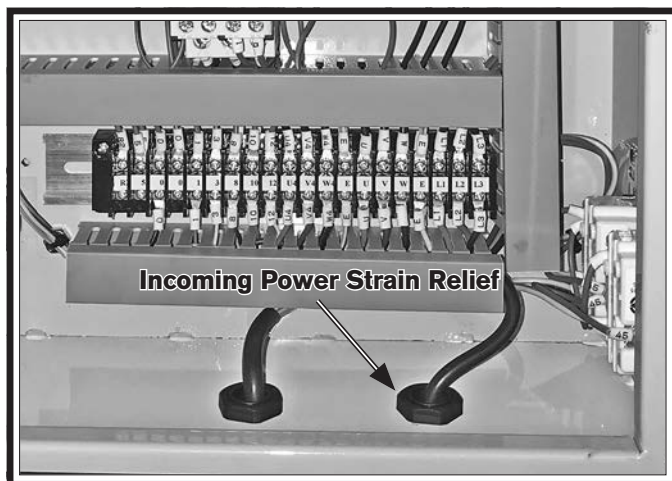

Figure 25. Location of incoming power strain relief.
2. Insert incoming power wires through strain relief (see **Figure 25**) at bottom of electrical cabinet.